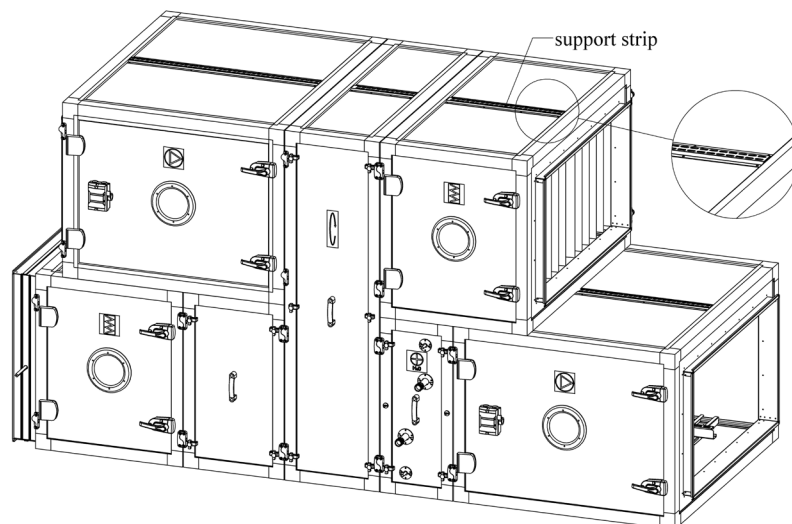

Figure 5.1
1. There are roof support strips (installed at factory) on the top of the outdoor unit, as shown in Figure 5.1.